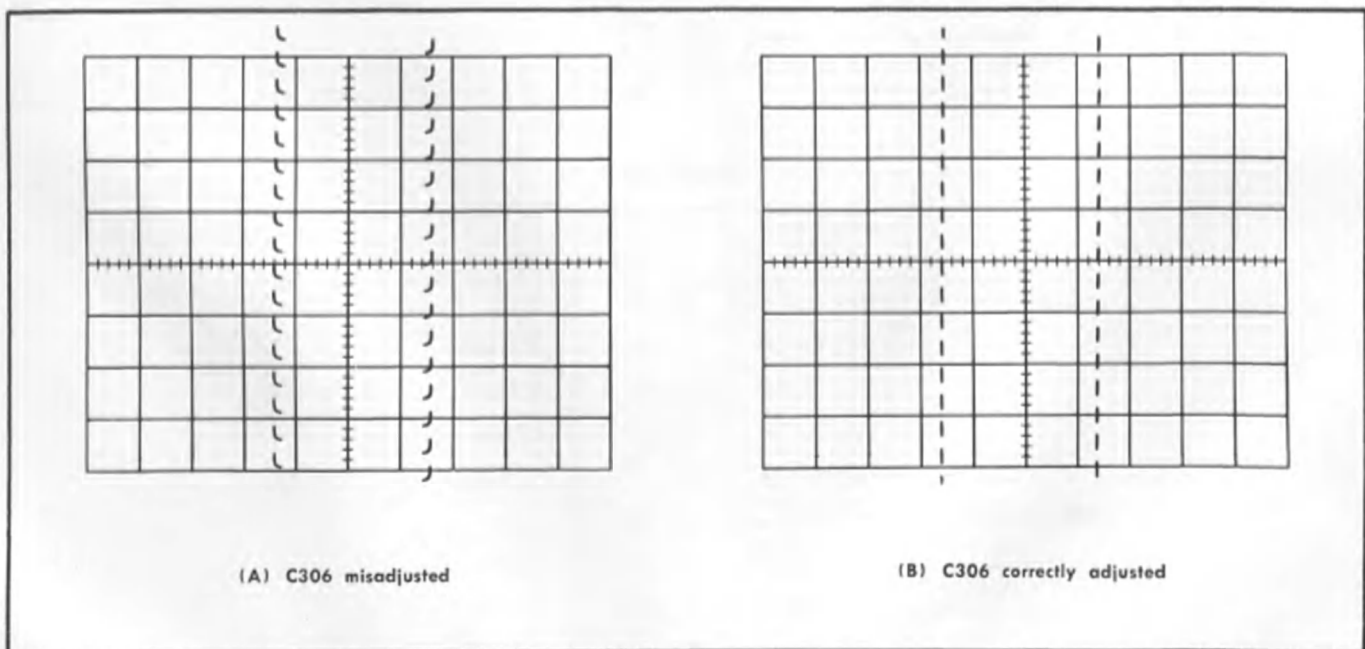

Fig. 6-22. Typical display, Horizontal Amplifier attenuator compensation adjustments; 1 kHz square-wave input; SWEEP TIME/CM switch setting, 2 mSEC.
f. Rotate the LEVEL control to a point near 0 to obtain a stable display, similar to Fig. 6-22.
h. Check—For an optimum square wave with flat top, similar to Fig. 6-22 (B).